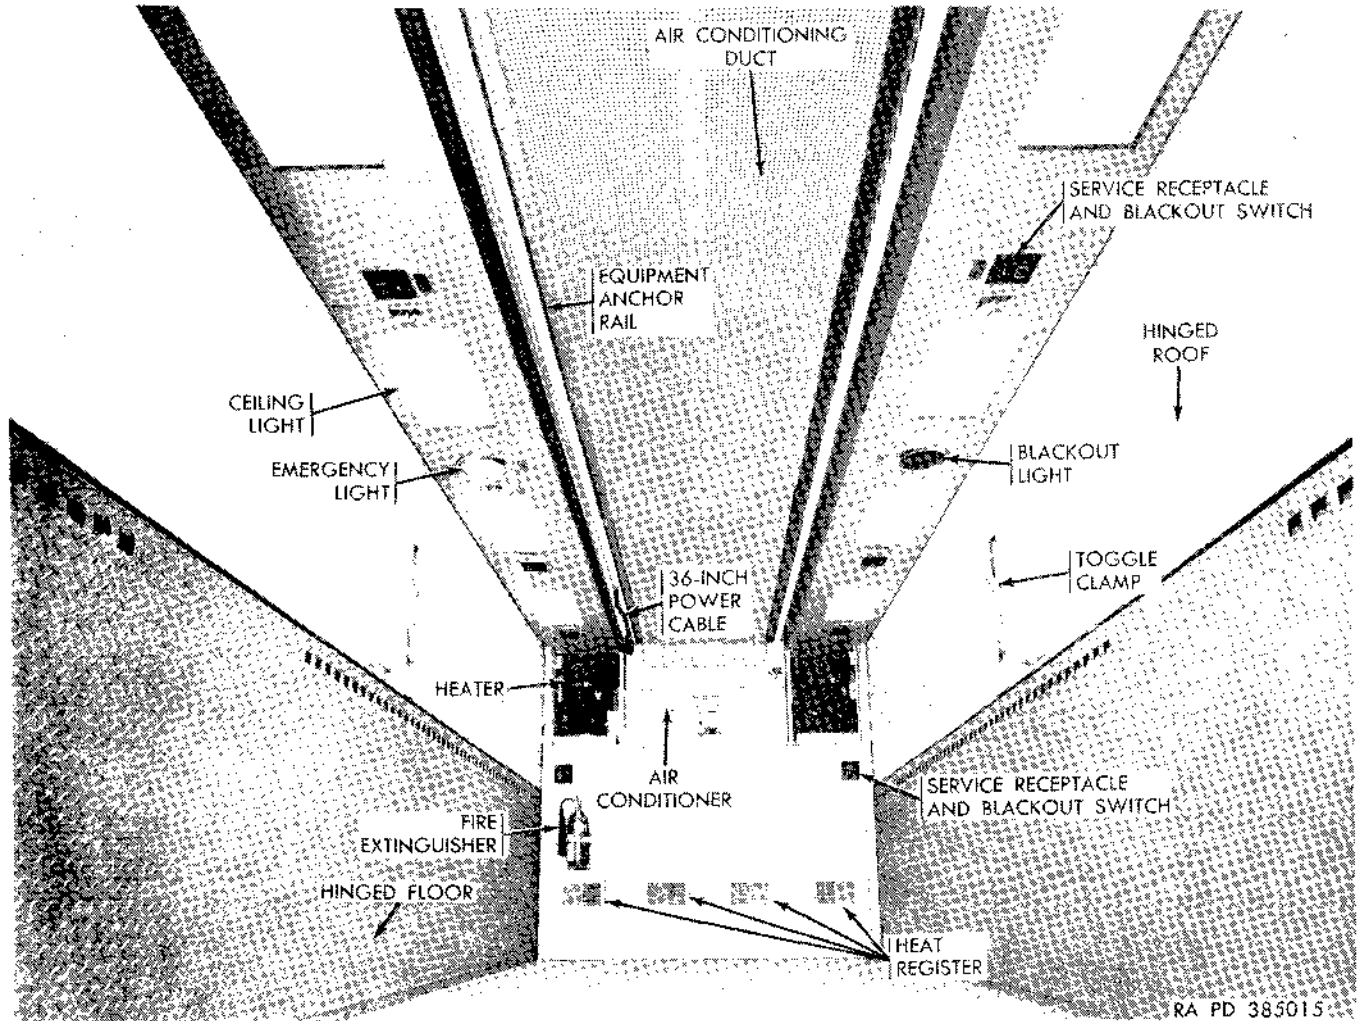
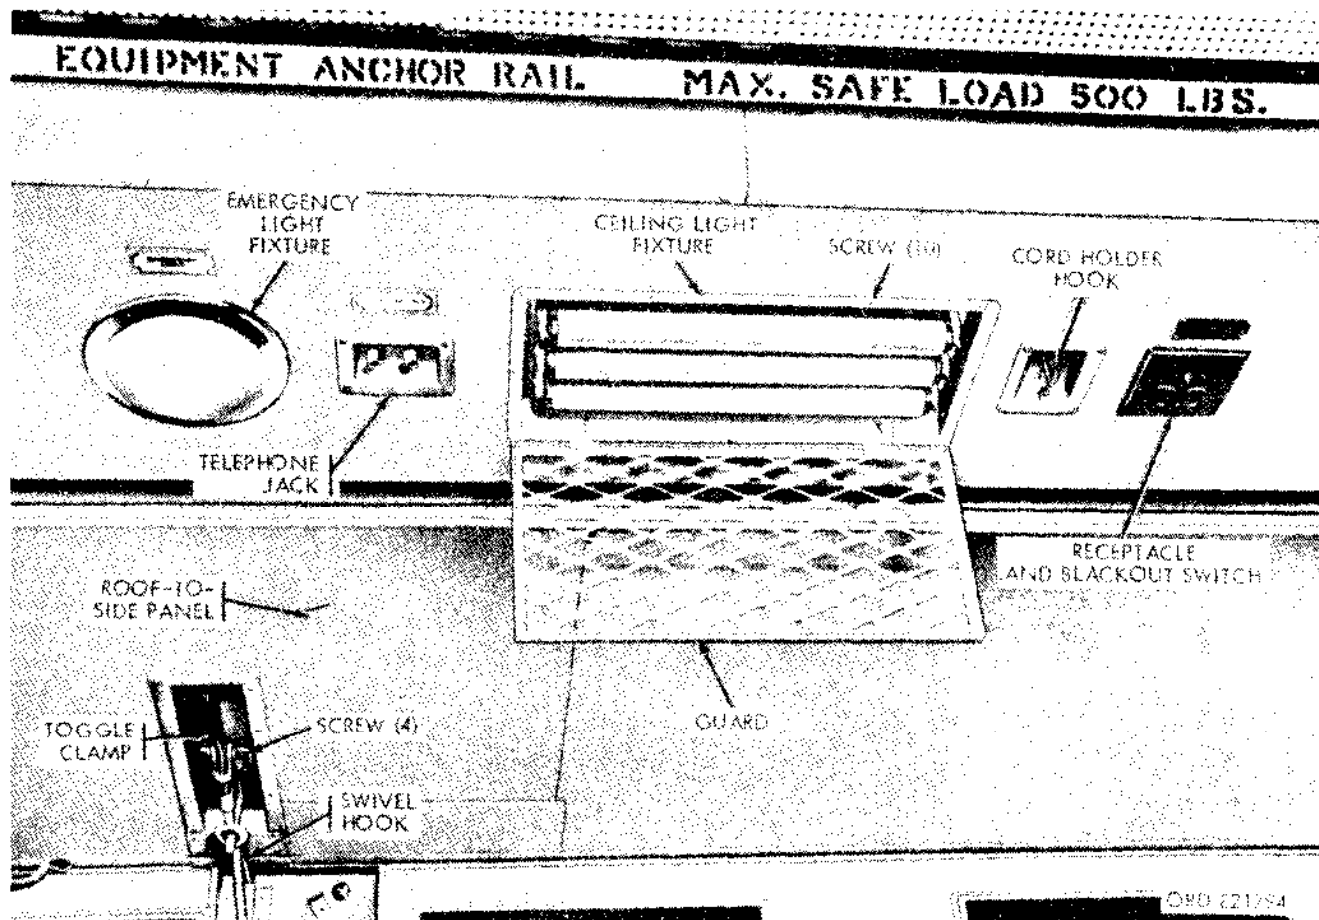

Figure 2-231. Van in body in retracted position—front interior view.
Figure 2-234. Ceiling fixtures and lights.
(4) *36-inch auxiliary power cable.* The 36-inch auxiliary power cable (fig. 2-231) is similar in construction to that of the 100-foot power cable except that only one end is fitted with a receptacle to accommodate the van power entrance receptacle. The opposite end is separated into four individual wires which are used to make connections to an outside power source whose output connector
(11) *Receptacle and blackout switches.* Ten combined receptacles and blackout switches located in the van ceiling and front wall (fig. 2-231 and 2-234) provide power outlets for operation of the 110-volt equipment housed in the van. The integral blackout switches are used to bypass the blackout feature when equipment must remain in continuous operation, or does not involve a blackout hazard. Cord holder hooks (fig. 2-234) are placed adjacent to the ceiling receptacles to prevent accidental disconnection of the power cords.
(12) *Emergency light.* The emergency light (fig. 2-231 and 2-234) is located approximately in the center of the van ceiling at the left of the air conditioning duct. It consists of a fixture containing a standard 60-watt lamp covered by a white frosted lens. The light is controlled by a separate emergency light switch and operates independently of the main blackout circuit switch and door-operated switches.
(13) *Blackout light.* The blackout light (fig. 2-231) is located approximately in the center of the van ceiling at the right of the air conditioning duct. It is similar to the emergency light, except that it is equipped with a 25-watt blue lamp and blue lens. The light operates in conjunction with the blackout relay and blackout door-operated switches, and is automatically turned on when the doors are opened, and off when they are closed, when the main blackout switch is in the ON position.
(14) *Ceiling fixtures and lights.* Eight rectangular ceiling light fixtures (figs. 2-231 and 2-234) are located in the van ceiling on either side of the air conditioning duct. Each contains three 20-watt fluorescent tubes, two 60-watt lamps, and
*d. Heating System.* The van heating system incorporates two fuel-burning, 60,000 B.t.u noncontaminating, hot air heaters operating on 110-volt ac, 60-cycle, single-phase power. The heaters are located in the van bonnet on either side of the air conditioner (fig. 2-231). Control facilities permit circulation of both heated and unheated fresh air drawn from outside the van, mixed with heated and unheated air drawn from inside the van. The proportion of outside and inside air may be varied. Hot air ducts in the van front wall conduct heated air from the heaters into the van interior through four heat registers (fig. 2-231) in the van front panel when the registers are open. When the registers are closed, the heated air is conducted through corrugated ducts beneath the aluminum floor tread plate, which functions as a radiator. This function extends to the hinged floor sections so that the heat-radiating surface of the floor is available when the van is in both its expanded and its retracted positions.
and uncooled air drawn from outside the van, and cooled and uncooled air drawn from inside the van. The proportion of outside and inside air may be varied. A perforated air conditioning duct (fig. 2-231), located on the van ceiling, conducts cooled or uncooled air to the van interior.
(1) Place the van side panel in its fully expanded position (TM 9-2320-211-10).
(2) Secure the end panel doors in their open position.
(3) Support the hinged roof with swivel hooks (fig. 2-234). Place a 1-inch wood block between the end swivel hook and the hinged roof to release the tension on the counterbalance cable.
(4) Remove the cotter pin, clevis pin, and clevis which attaches the cable to the vertical drop arm, and remove the clevis from the arm.
(5) Remove the cotter pins and roller pins which attach the upper and lower rollers to the corner post, and remove the upper and lower rollers. Removal of the lower roller will release the lower folding arm.
(6) Unscrew the lower cable end from the turn buckle, then unscrew the turnbuckle from the turn buckle eye.
(7) Withdraw the cable upward through the guides, and remove the cable.